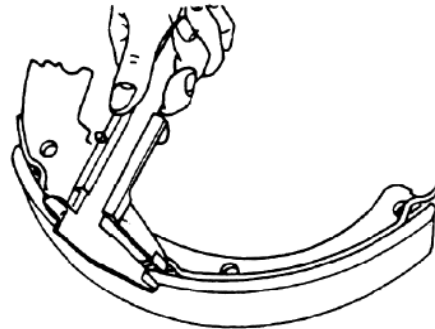

Fig. 2-18
(2) Visually check the piston cup for damage or deformation. If unsatisfactory, replace with new one.
(3) Check the free length of the operating cylinder spring. If unsatisfactory, replace it.
(4) Check the friction piece for thickness to see if it is excessive worn. If necessary, replace it. (See Fig. 2-18)